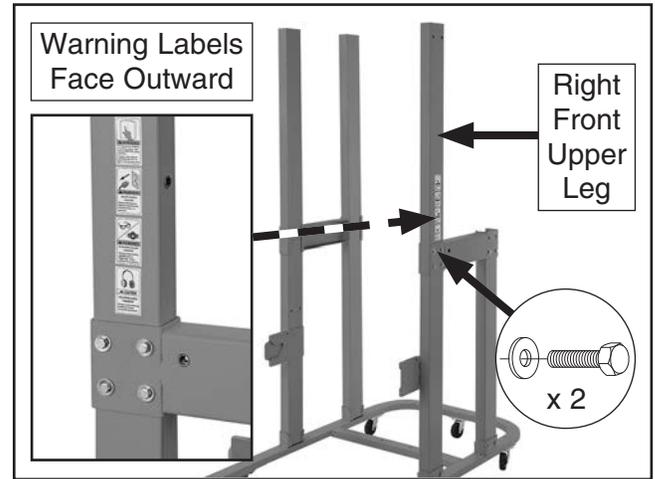

Figure 15. Right front upper leg installed with warning labels facing outward.
- Place right front upper leg in right leg brace so warning labels face outward, as shown in **Figure 15**, then attach with (2) $\frac{5}{16}$ "-18 x $\frac{3}{4}$ " hex bolts and (2) $\frac{5}{16}$ " fender washers. Finger-tighten for now.